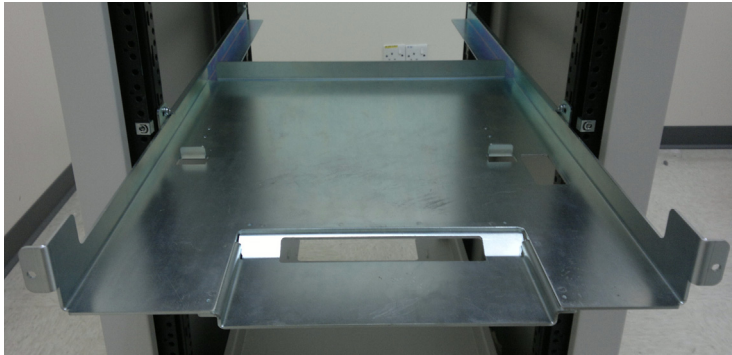

Figure 1-18 Support tray
- 1 Slide the support tray onto the rails, but do not slide completely into the rack. Instead, leave it slightly extended so you can place the 8990B on top of it as shown in Figure 1-18.